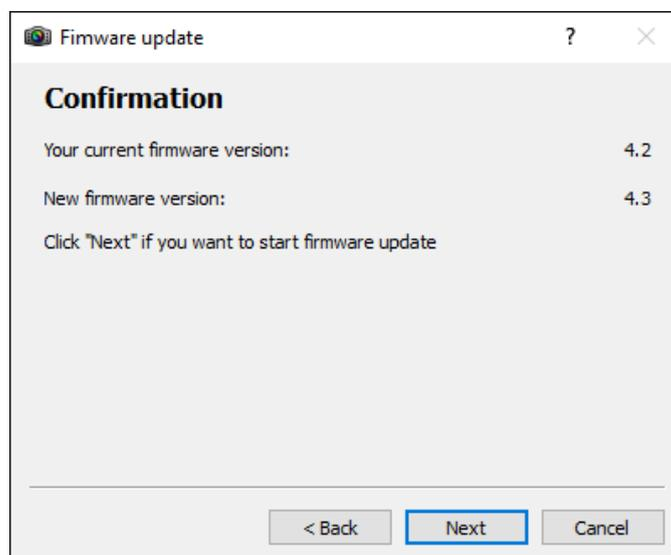

Figure 40 – Firmware update confirmation window
3. The following window would display both current and new firmware, as shown in Figure 40. The confirmation is made by clicking the "Next >" button, and the firmware update would start immediately.